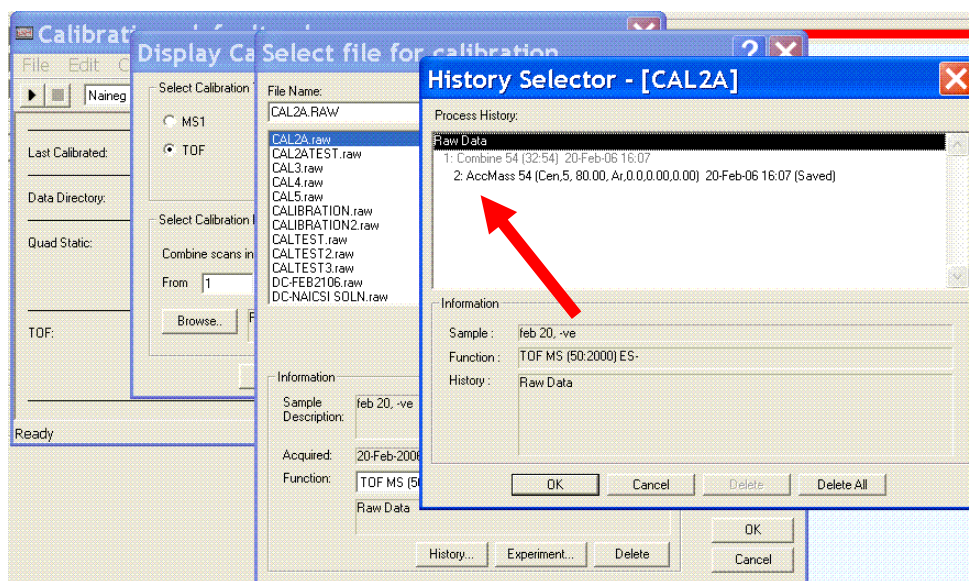

Figure 17
11. Select the “AccMass...” file that is offered (Figure 17). This is the centered spectrum that you just saved in step 5.